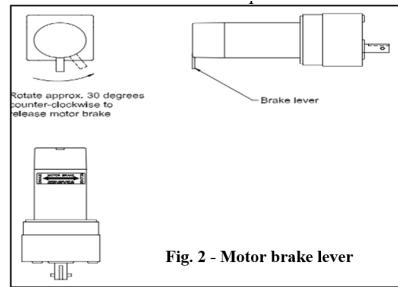

Fig. 2 - Motor brake lever
6. Rotate the brake lever, on the backside of the motor, counter-clockwise (looking from the rear of the motor) about 1/8 of a turn to the released position (Fig. 2). This will release the brake that holds the room in place.